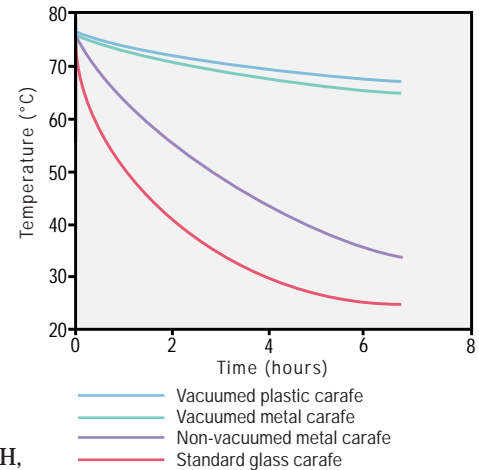

Figure 1. Performance comparison of coffee carafes.
**Heat transfer** - Heat transfer in the coffee maker is investigated to determine where heat enters and leaves the system (see experiment on next page). Cooling rates of hot coffee stored in different carafes determine the most energy efficient storage method (See Figure 1).